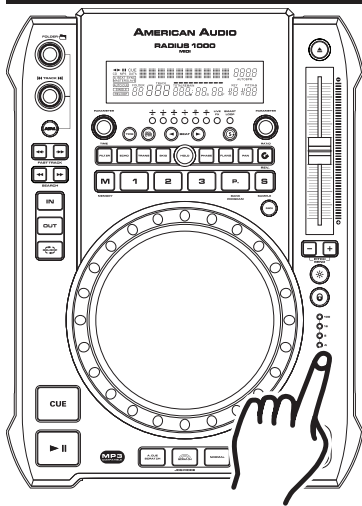

Figure 39
Adjusting the PITCH SLIDER'S RANGE (8): You may change the PITCH SLIDER'S (3) operating range at any time. To change the operating range be sure the pitch function is turned on, see figure 37. The pitch percentage range can be changed between +/-4%, +/-8%, +/-16%, and +/- 100%. 4% will allow the least amount of pitch manipulation and 100% will allow the most amount of pitch manipulation. To adjust the different ranges, press the PITCH ON/OFF BUTTON (6) and tap on the PITCH RANGE BUTTON (8) until your desired value is reached, see figure 39.